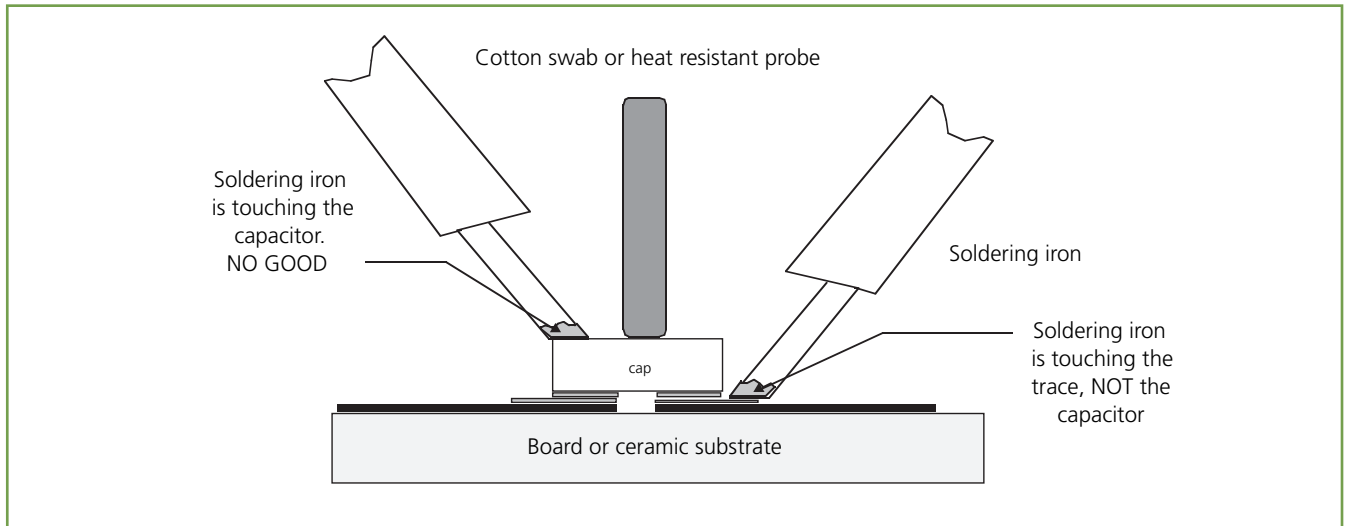

Figure 3. Showing proper soldering iron location
14. Using the back of a cotton swab or a heat resistance probe, carefully hold the capacitor in place. DO NOT PRESS HARD. Apply the soldering iron to the area shown in Figure 3 and hold there until you can see the solder melt both on the trace and around one side of the capacitor.